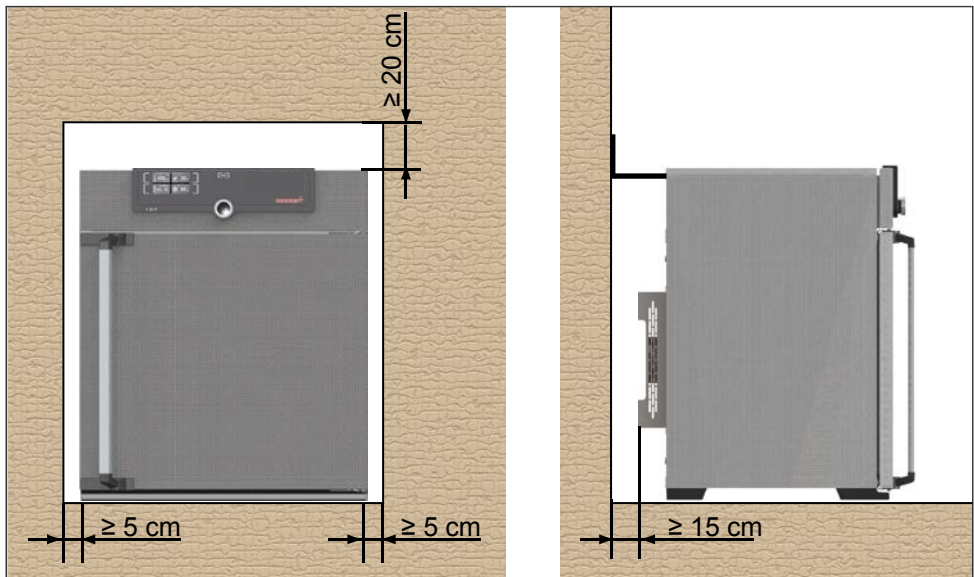

Fig. 7 Minimum clearance from walls and ceiling
The distance between the wall and the rear of the appliance must be at least 15 cm. The clearance from the ceiling must not be less than 20 cm and the side clearance from walls or nearby appliances must not be less than 5 cm (Fig. 7). Sufficient air circulation in the vicinity of the appliance must be guaranteed at all times.
2. Bend the tilt protection upwards by 90° in the desired distance to the wall (consider the minimum distance to the wall, see Fig. 7).